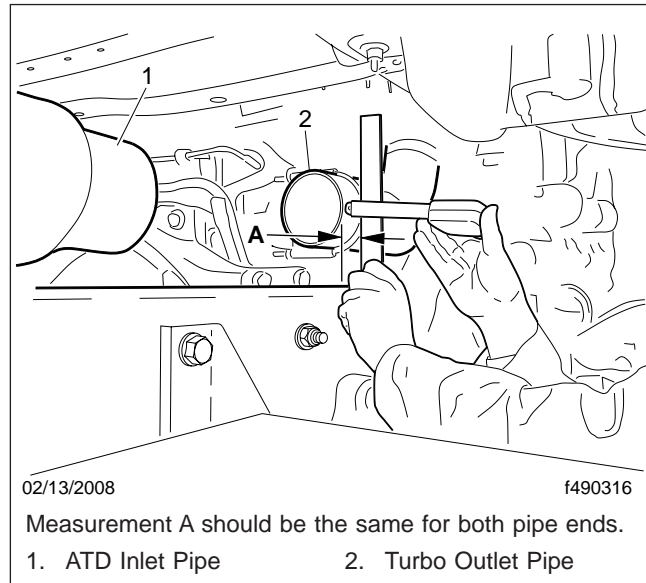

Fig. 2, Horizontal Measurement
- 3.4 Measure the horizontal distance between the pipe and the frame rail. See Fig. 2. This measurement must be the same for both pipe ends.